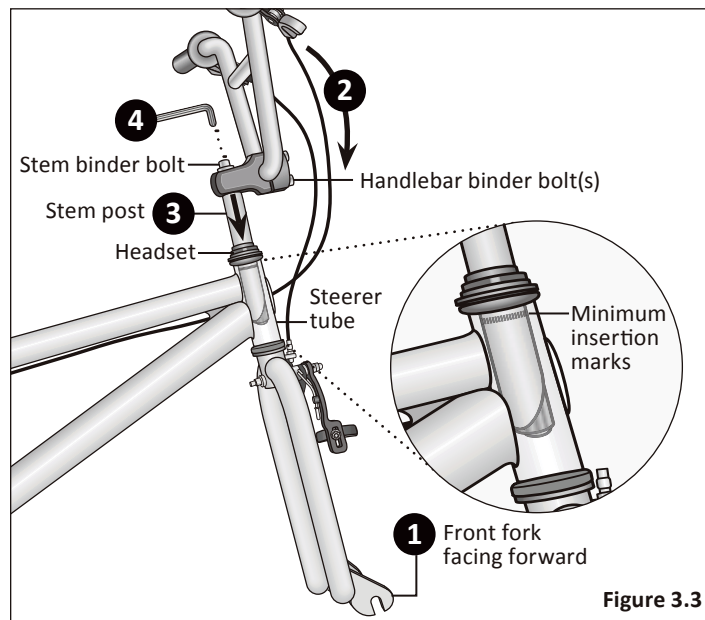

Figure 3.3
- 1 Turn the front fork to face forward. **Figure 3.3**
- ❶ Turn the front fork to face forward (i.e. the fork dropout is in the furthest forward position). **Figure 3.3**
- ❷ Loosen and remove the pinch bolts holding the stem face plate on the front of the stem.
- ❸ Insert the handlebar into the stem. **Note:** use the rough area of the handlebar to help center them into the stem.